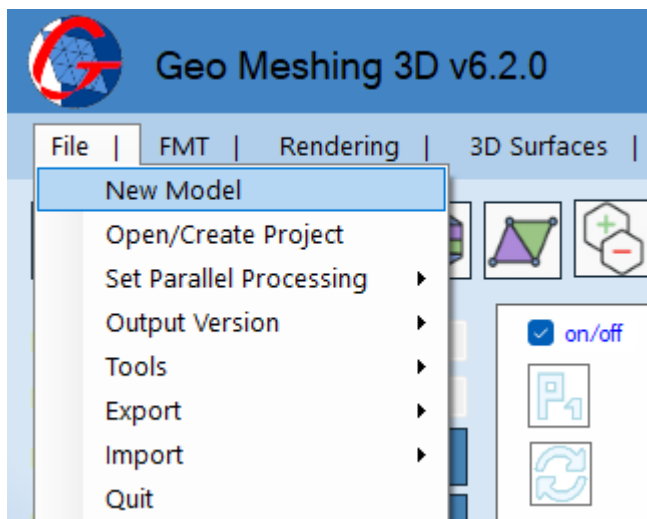

Figure 7: File Menu – New Model.
- **File Menu, New Model:** This option (shown in Figure 7) will start a new project. It will erase any mesh and surfaces created.